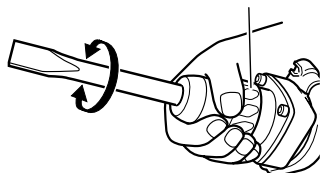

Fig. 9
- (c) Turn the grip as illustrated in Fig. 9 and fix the tool to the desired working direction.